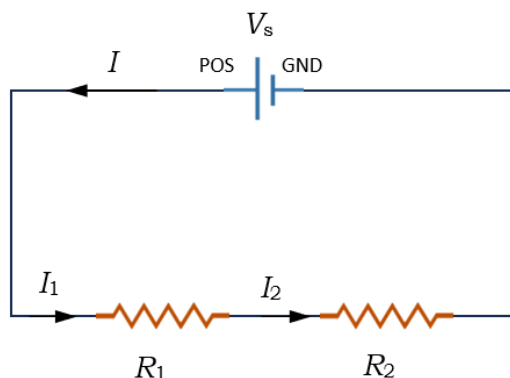
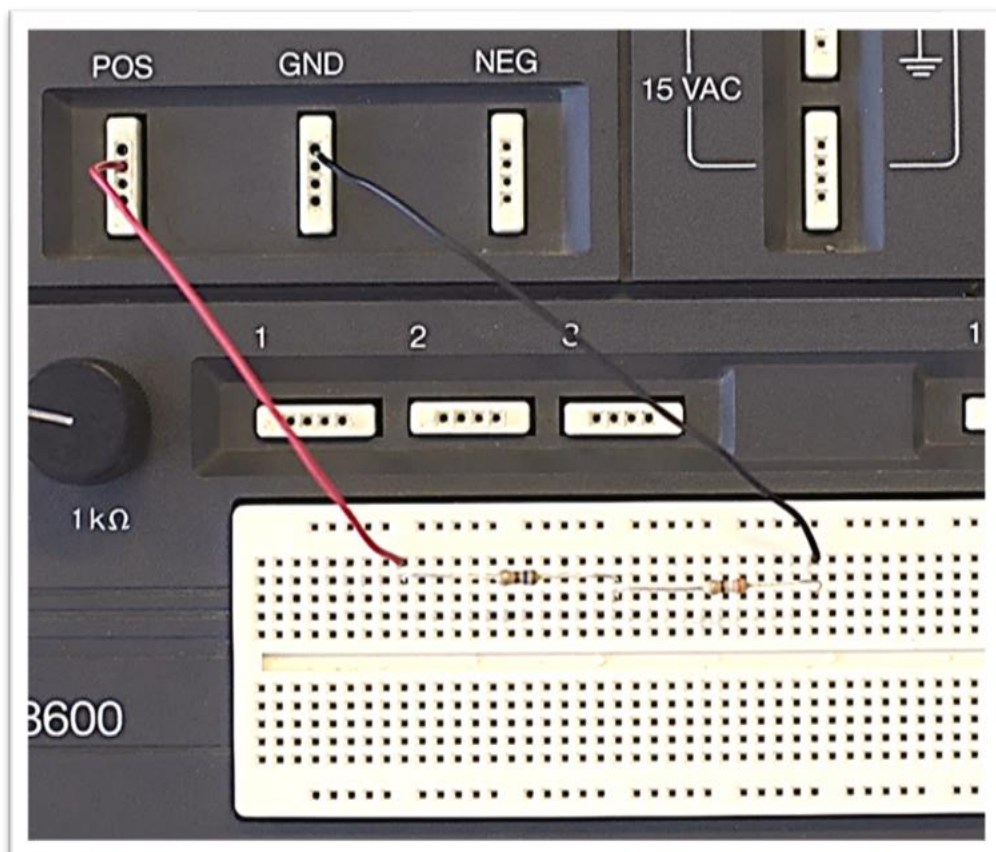

Fig. 1: Two series resistors
Fig. 3: Series circuit
Resistors in Series: When two resistors R_1 and R_2 are connected in series to each other and to a power supply V_s (**Fig. 1**), then based on the conservation of energy, the sum of the potential differences (V_1 , V_2) across the resistors equals the power supply voltage, i.e.,
2. Implement the circuit given in **Fig.1** as shown in **Fig.3**.